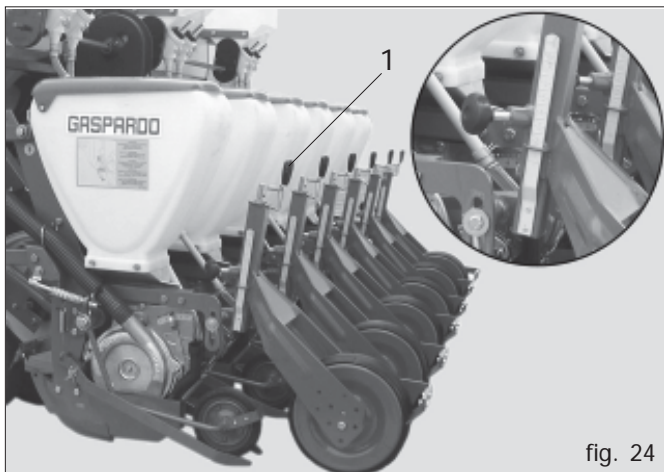
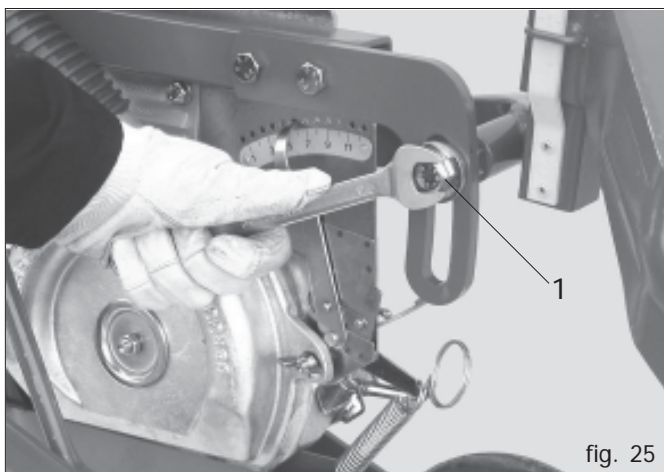

fig. 24
fig. 25
For the shoots to come up well it is important to place the seed at the right depth on the seeding bed. The handle varies the height of the furrow opener blade, and so determines the depth of the furrow on which to place the seed (1 Fig. 24). **The graduated indicator serves to adjust all the furrow openers at the same depth. The pointer of the adjustment scale is purely progressive; it does not show a variation in cm on the depth on the seeding.** In the beet configuration check that the equalizer is centred on the seed planting furrow; if necessary adjust screw (1) in Figure 25.